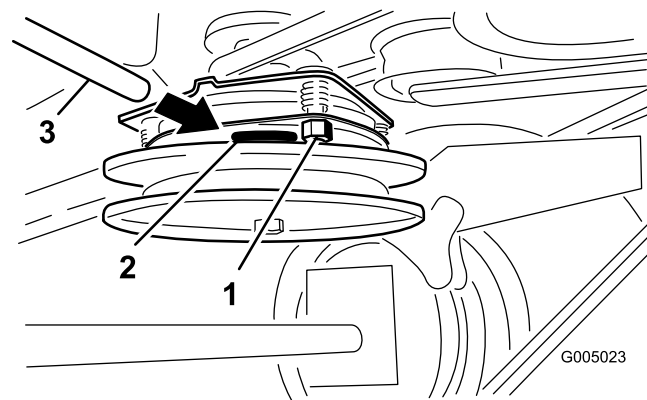

Figure 41
- Tighten the lock nuts until there is slight binding on the feeler gauge but it can be moved easily within the air gap (Figure 41).